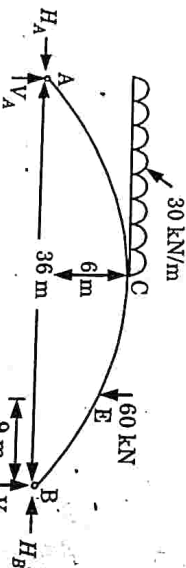

Fig. 5.
b. A three hinged parabolic arch is shown in Fig. 5. Determine the normal thrust, radial shear and bending moment at quarter span and draw BMD.